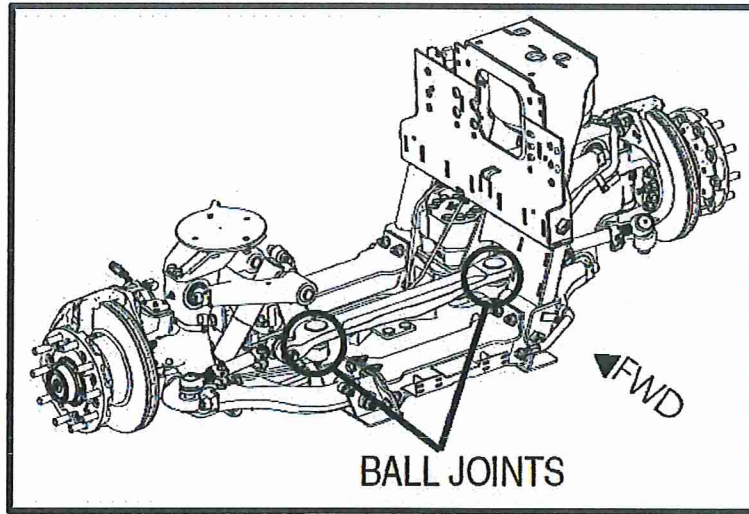

FIG. 2-1
1. Follow normal maintenance and safety procedures to gain access to the pitman arm ball joints. Refer to FIG. 2-1.